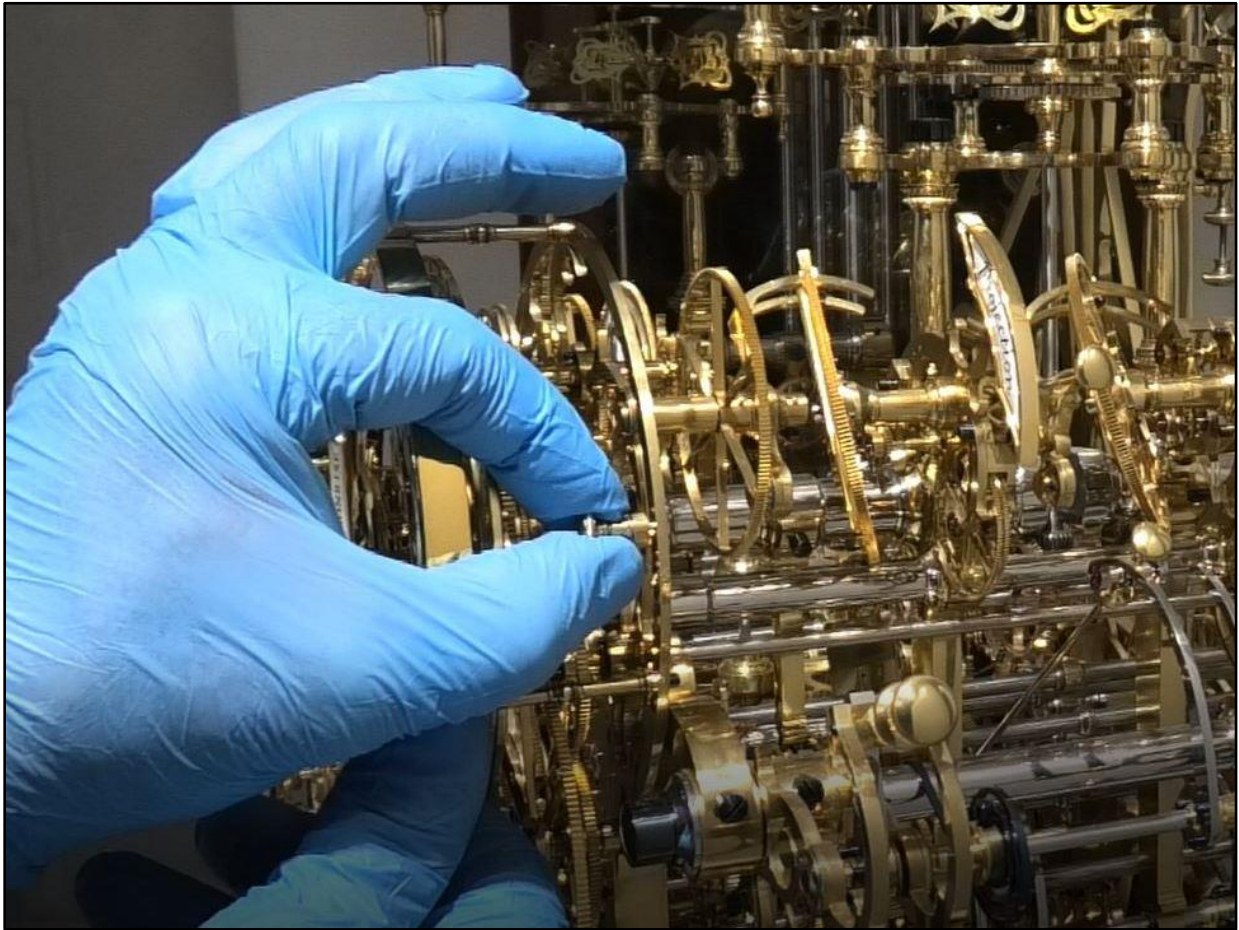

Fig. 3. Locking lever knob being set into secure position, once knob is released a pin should seat into a mating hole to keep the lever in position.
4. Once the module is seated, the locking lever knob can be moved clockwise, Fig. 3. ⚠️Note! The lever should move without hanging up if they have been properly seated into their slots and should display a bit of tightness toward the last few degrees of movement. This is because the slots in which the lever's keys slide into have a slight radial angle to draw the module tightly onto the pillar's bayonet mount. The knob is spring loaded and designed to push a pin into a hole at the end of the lever's travel to keep it in place. ⚠️Note! *Be sure that the pin is fully engaged in the hole to prevent the lever from working loose.* This is the only point upon which the Sun/Moon module is secured to the machine and a catastrophic failure could occur if the module works loose from its mount. Check for freedom of wheel movement throughout.